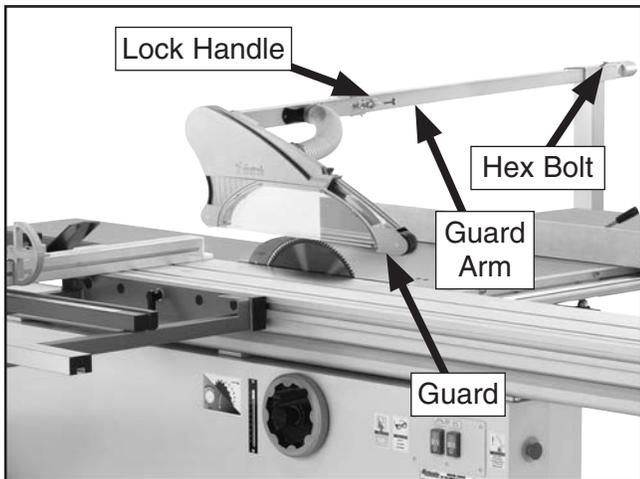

Figure 79. Blade guard assembly.
The term "blade guard" refers to the assembly shown in **Figure 79**.
Sometimes the guard or its components can get in the way when cutting very narrow workpieces or other specialized cuts. Use the lock handle shown in **Figure 79** to move the guard out of the way. The blade guard **MUST** remain installed on saw. If blade guard is removed for specific operations, always replace it immediately after those operations are complete.
Loosen the hex bolt securing the guard arm (see **Figure 79**), and adjust the guard so the distance between the blade and both side covers is equal.
For stock up to 1" thick, loosen the (4) lock nuts securing guard to guard arm, (see inset image in **Figure 79**), ¼-turn each so the blade guard moves smoothly up and down with the workpiece. For stock thicker than 1", set the guard to rest on the workpiece, then tighten the (4) lock nuts.